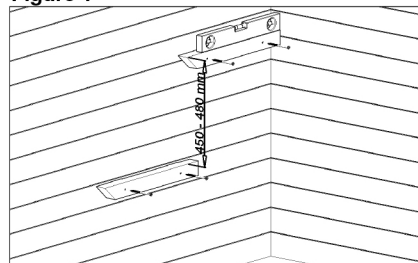

Figure 4
4. Fasten the supports to the wall with screws. The height difference between the top and bottom bench levels should be 450–480 mm. Use a level to make sure that the supports are on the same horizontal line. If you wish to add a bench skirt to the sauna bench, calculate the respective height of the benches according to that. (Figure 4)